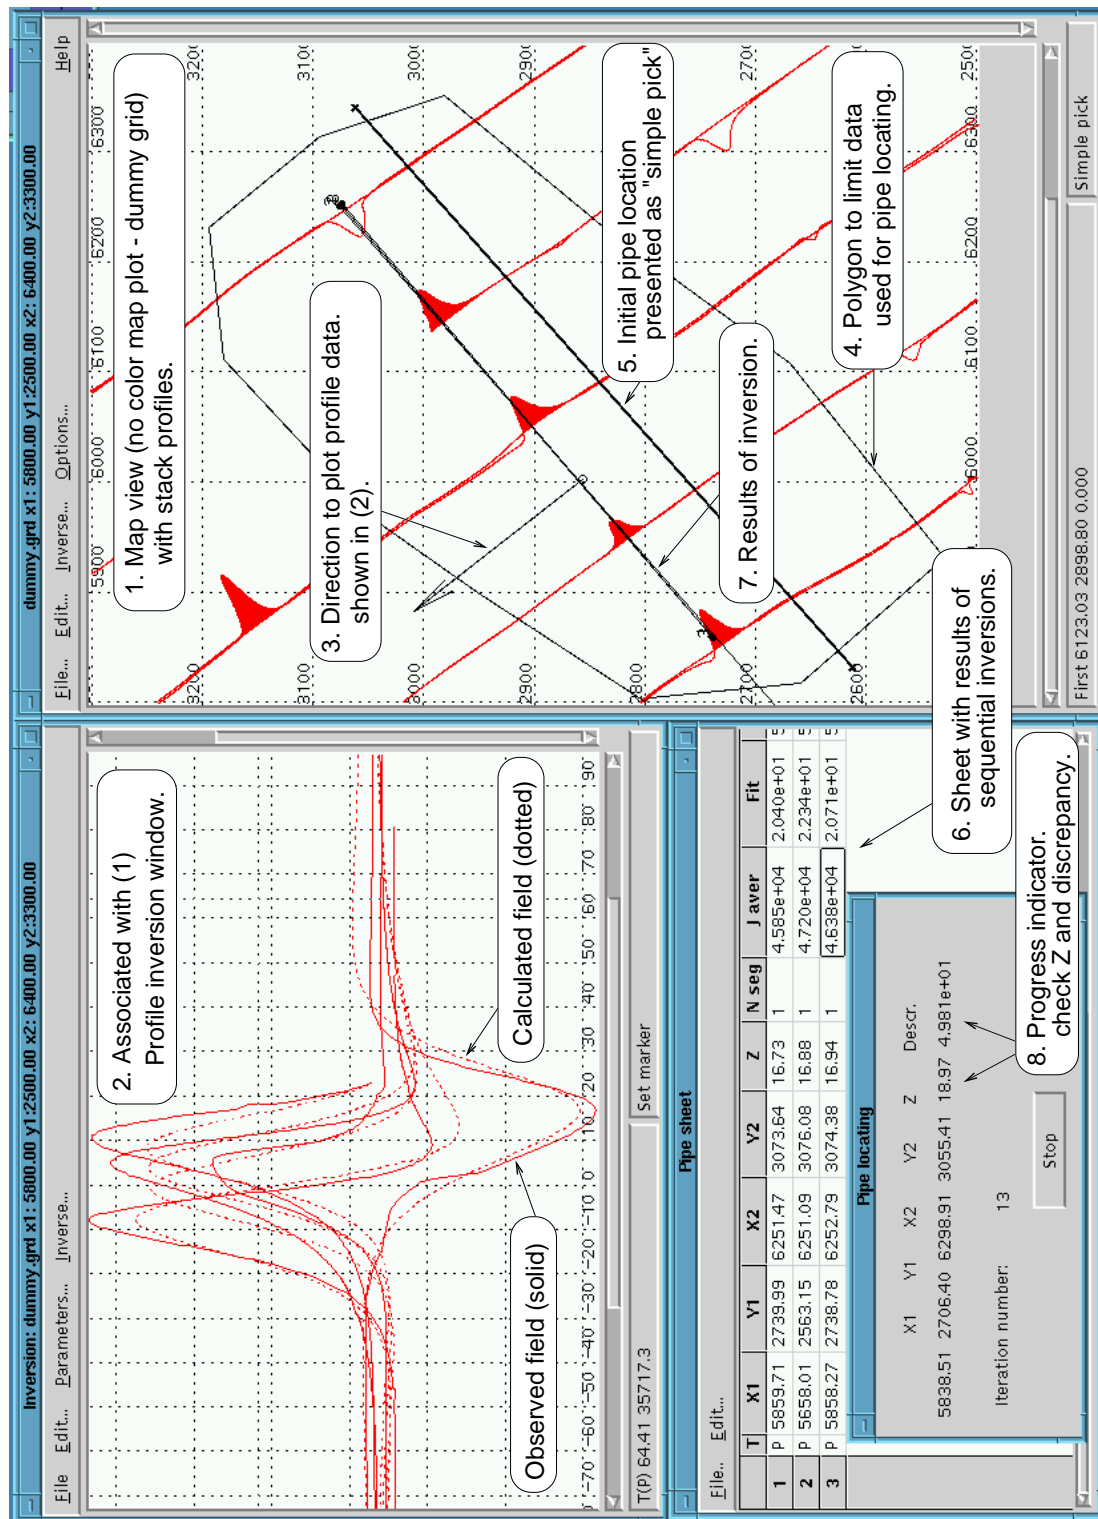

Figure 135: Finding pipe location with MagPick
If you try to start an inversion procedure from the map window then the map data will be used (in this case it does not make sense because there is no real map data). If you start it from *All profiles in the window* then the profile data is used. This is what we want. All profiles window is a counterpart to the map window. There is just only one allowed per one map window. Look at figure 135. There is a map window on the right side of the screen and a profile inversion window on the left side.
- In the map window, go to *Edit / Direction* Draw direction as it is shown on 135 (3). Click first point, move to the second and click again. Arrow is drawn.
- Change range for profile inversion view. If you draw an arrow like it is on figure 135 then in the profile inversion window go to *Parameters / Settings*; uncheck here for *Xmin: Xmax: Data limits* and enter *Xmin:-100* and *Xmax: 100*. Now the horizontal axis extends from -100 to 100 m.
We definitely do not want use all data presented in the map window for location of a single pipe. To restrict the data do the following. Under map window, go to *Edit / Polygon*, then go with the mouse to the point 5800, 2800 (approximately). Click the left button. Draw a polygon as it is shown on figure 135 (4). Close polygon by hitting the first point one more time. If you clicked the left button by mistake the last node can be removed by a right click. Choosing *Edit / Polygon* removes current polygon completely.
For dipoles you can see results of inversion in the worksheet. There is another (different from dipoles) worksheet for pipes. Go to *Inverse / Worksheet / Pipes*; window with results appears on the screen (6 on figure 135). Once opened it can not be closed. The pipe worksheet supports the same set of operations as the dipole worksheet: loading / saving from file, deletion of the raw, undo deletion, export as DXF or BLN format.
The results of inversion is also shown on the map view as $\overset{5}{\bullet} \text{---} \overset{5}{\bullet}$ where 5 denotes estimation number (the same as row number in worksheet). It is shown on figure 135 as (7). When you remove the row from the worksheet it is automatically removed from the map view too.